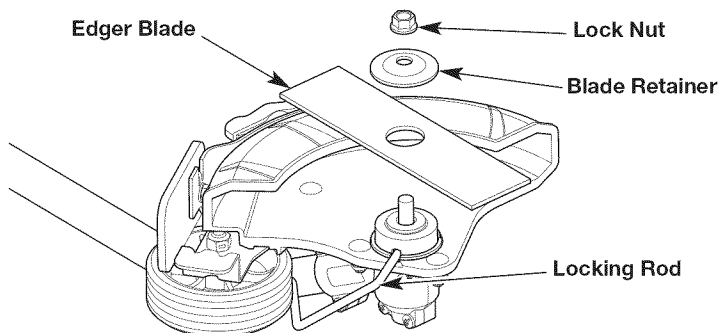

Fig. 10
4. Remove the locking rod. Remove the lock nut, blade retainer and edger blade (Fig. 10). Keep the lock nut and blade retainer for installing the new edger blade.
5. Install the new edger blade, blade retainer and lock nut (Fig. 10).